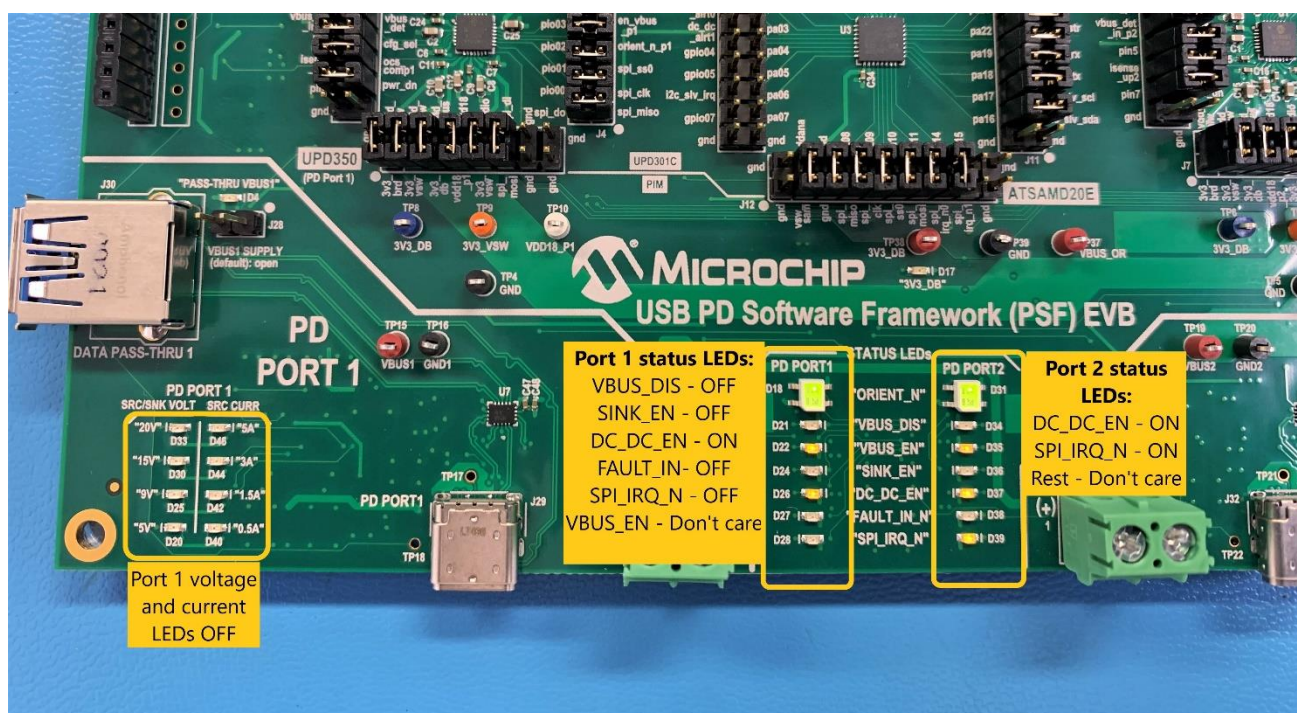

Figure 7.1 Status LEDs after power on
1. Once the hex file is programmed, the SPI_IRQ_N LEDs in port1 flash and then turn off. Refer Fig 7.1 for status of LED after power on.